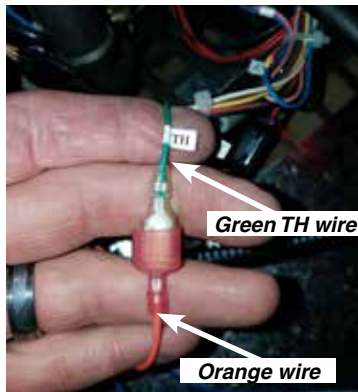

Figure 18a
21. Connect the orange wires from the PVK kit to the Green TH wires disconnected in the previous step as shown in Figure 18a & 18b.